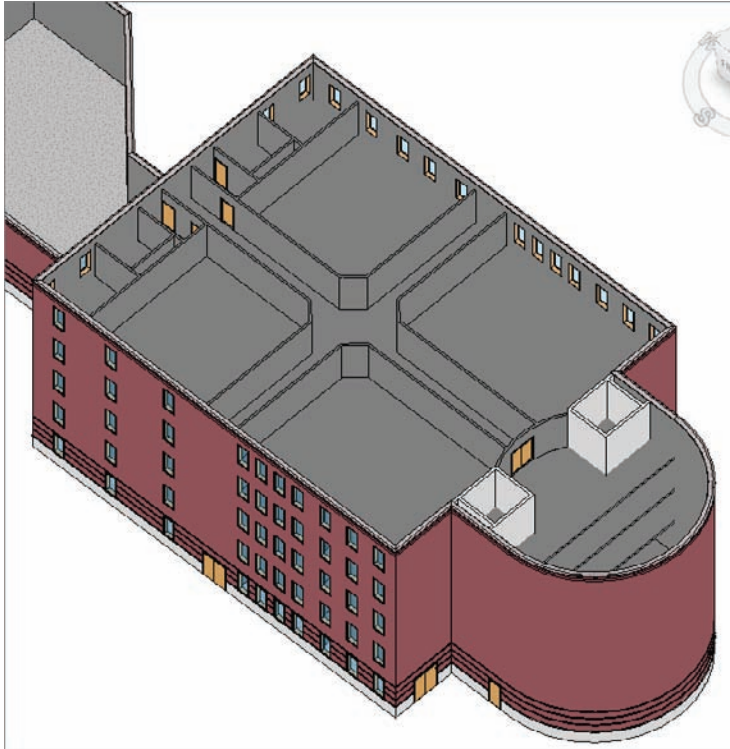

FIGURE 6.32 The completed floor placement
6. Click OK. The floors are pasted to the specified levels, as shown in Figure 6.32.